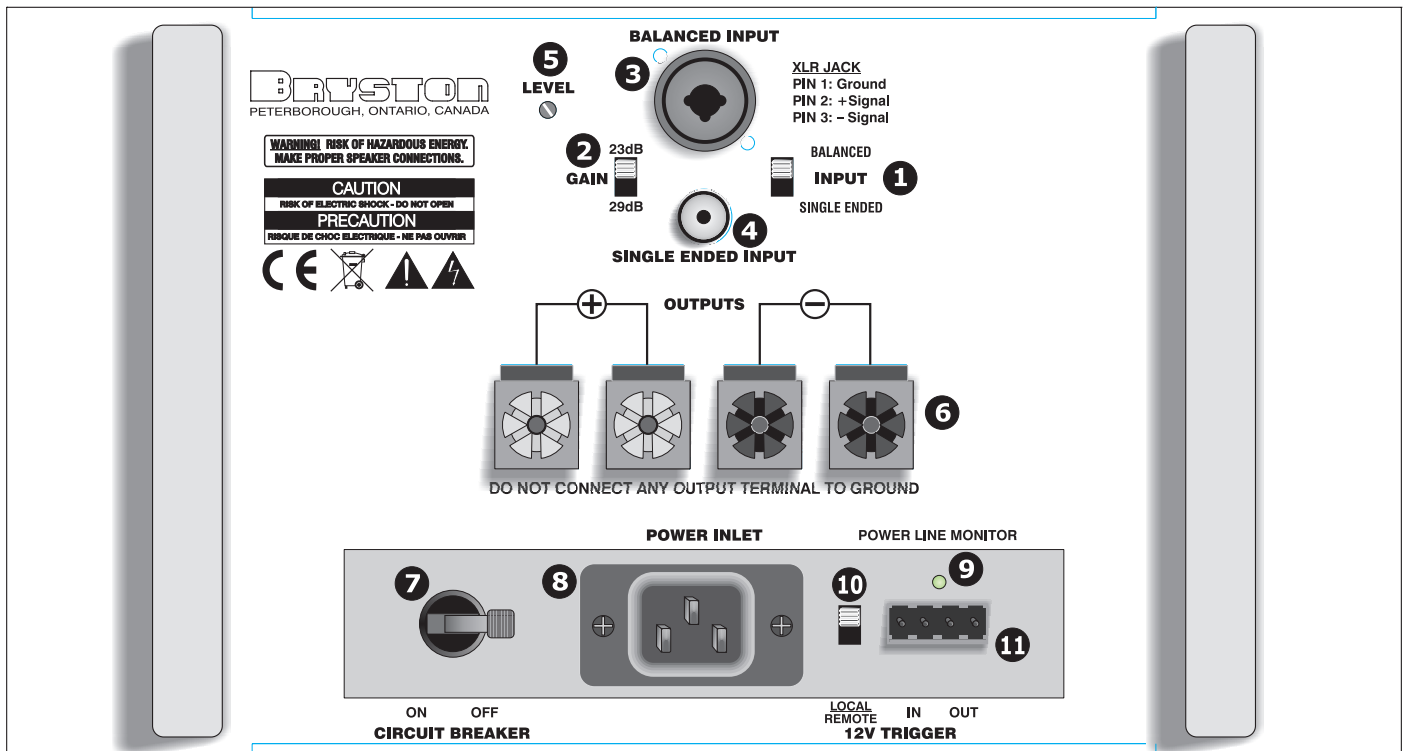

Figure 1
(refer to figure 1 on page 2)
On the rear panel is provided a high current plug for the power cord receptacle. Check that the voltage rating on the label (item 12 in figure 1, page 2) conforms with your locality. With the circuit breaker 'OFF' insert the power cord into the 28B-SST amplifier, then plug the other end to an appropriate A/C power outlet. Switch the circuit breaker to on and observe the LED labeled "Line Voltage Status Indicator".
- 4) Set slide switch (item 11 in figure 1, page 2) to "External". The amplifier will now power-up only when the control voltage is present (on) and the front panel push-button power switch is ON (depressed). Immediately following power up, the control voltage will appear at the 'OUT' terminals of the interface connector (item 10 on figure 1, page 2, also see below) for the control of other equipment. The removal of the control voltage (0v), or releasing the front panel power switch, causes the amplifier to turn 'off' and the control voltage at the 'OUT' terminals is interrupted.